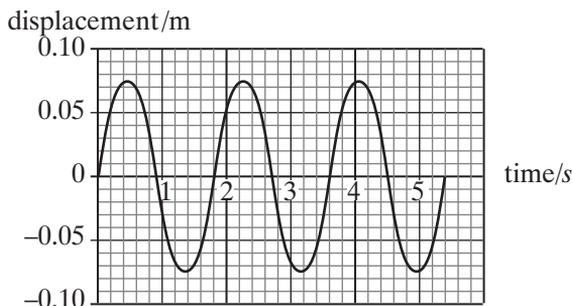

Figure 7
- 7 **Figure 7** shows how the displacement of the bob of a simple pendulum varies with time.
- (b) Draw on a copy of **Figure 7** the displacement–time graph for a pendulum that has the same period and amplitude but oscillates 90° ($\pi/2$ radian) out of phase with the one shown. (2 marks)